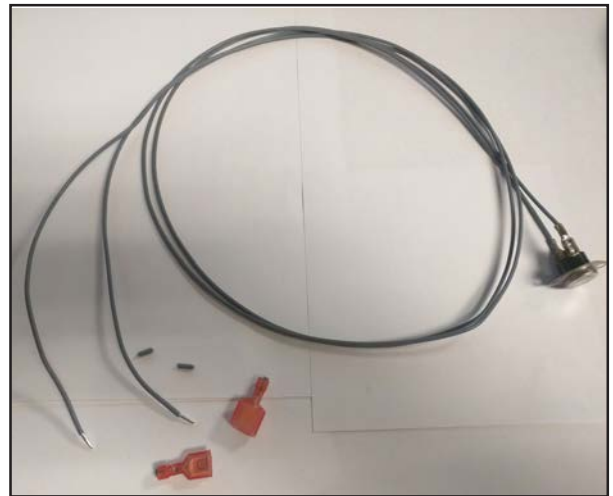

Figure 43: Spill Switch Modification
Step 1: Cut off the connectors from the one end of the wires. Note, the spill switch does not need to be removed from the Draffhood Adaptor for this modification (Figure 43).